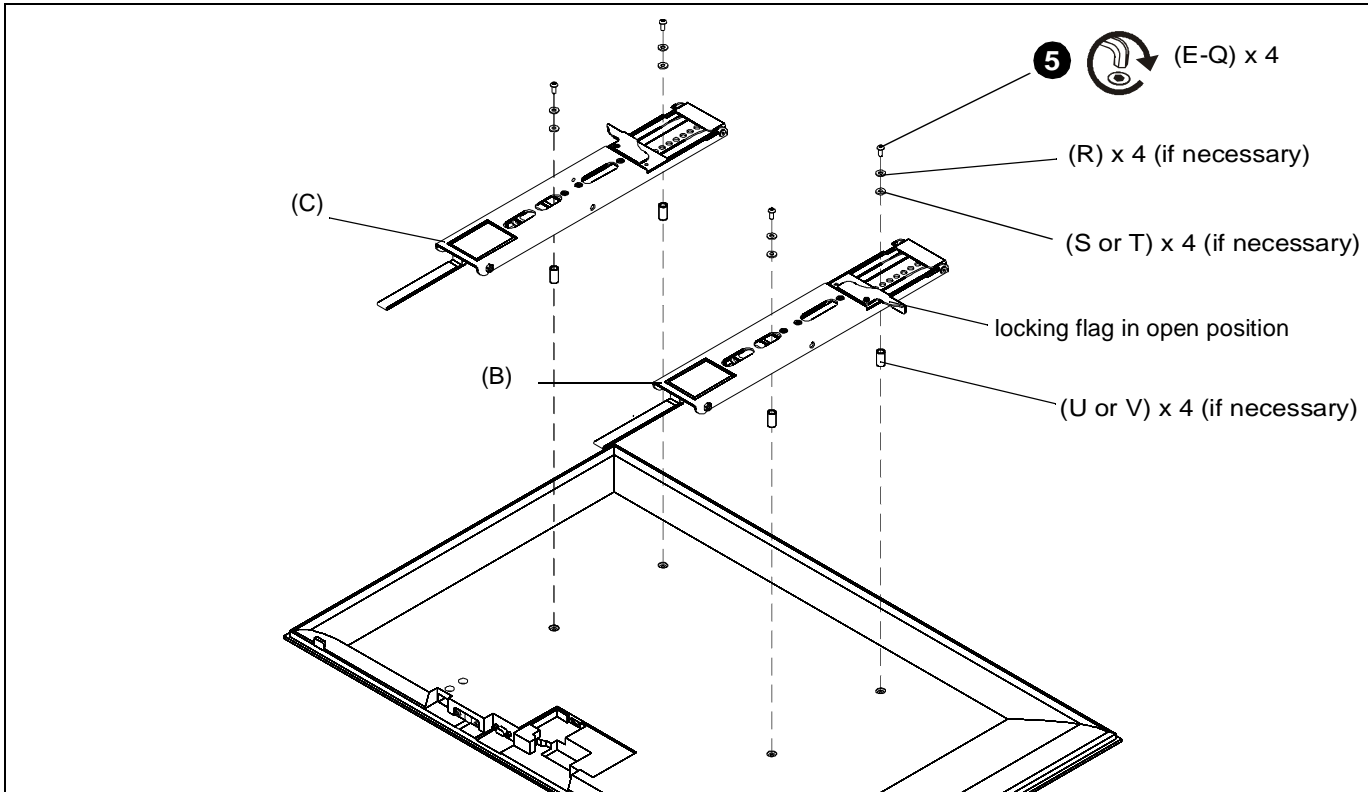

Figure 4
5. Install four button head cap screws (E-Q) through required washers (R) and spacers (S or T), interface brackets (B and C), spacers (U or V) and into holes on back of display. (See Figure 4)
**NOTE:** Make sure locking flags are in the open position before attaching display to wall plate. Flags are shown in the open position in Figure 4.